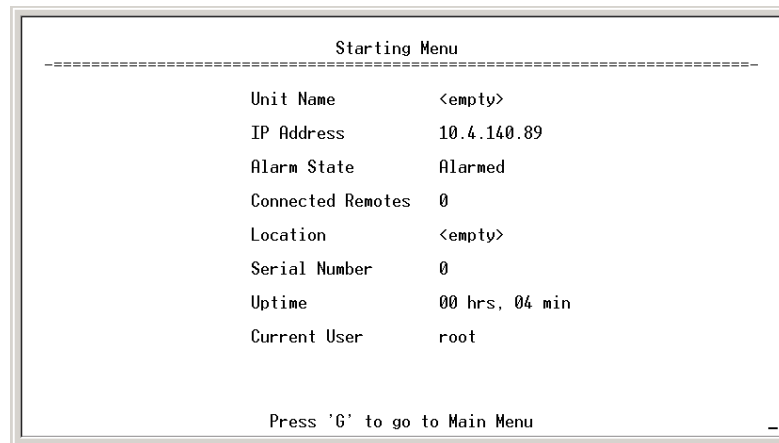

Figure 2-6. Starting Menu
(Figure 2-6 on Page 23)
- e. The transceiver responds with the startup menu screen. (See Figure 2-6 on Page 23.)
NOTE: If the default address of 192.168.1.1 does not work, use the terminal-emulator procedure to communicate with the unit through the COM1 port. The current IP address will be displayed on the *Starting Information Screen* (Figure 2-6 on Page 23).
NOTE: If an alarm is present when this screen is displayed, a “A)” will appear to the left of the **Device Status** field as seen in Figure 2-6. Pressing the “A” key on your keyboard will take you directly to the “Current Alarms” screen.